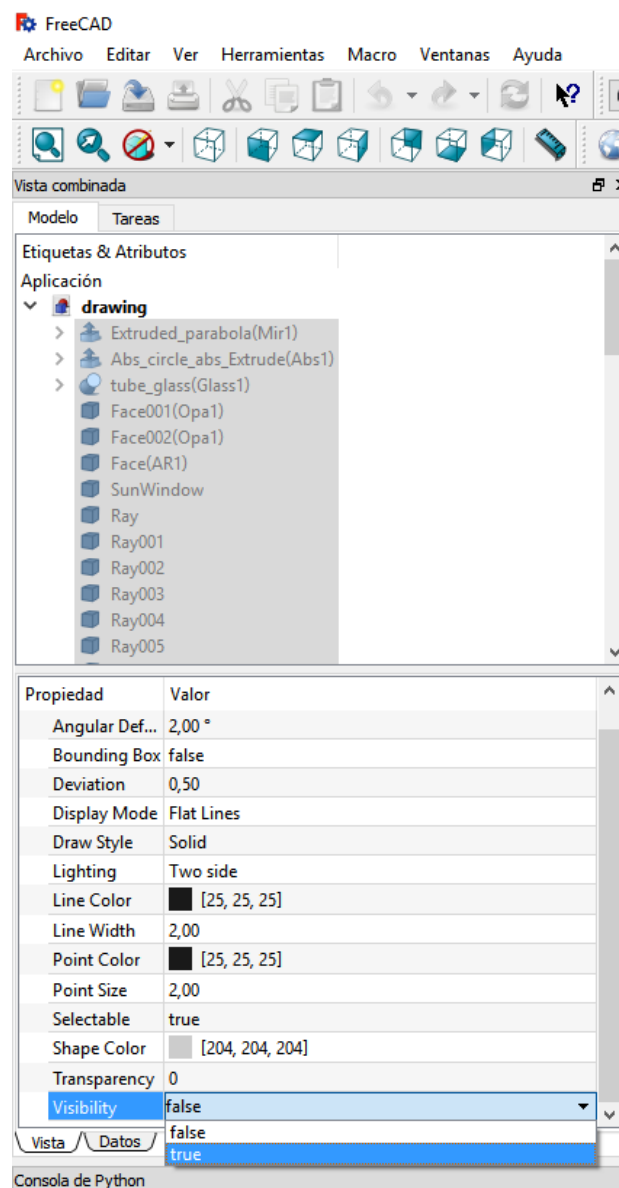

Fig. 16. FreeCAD view of the objects present in the “drawing.FCStd” file, and the visualization properties.
3. Change the “Visibility” property to “true” (see Fig. 16).